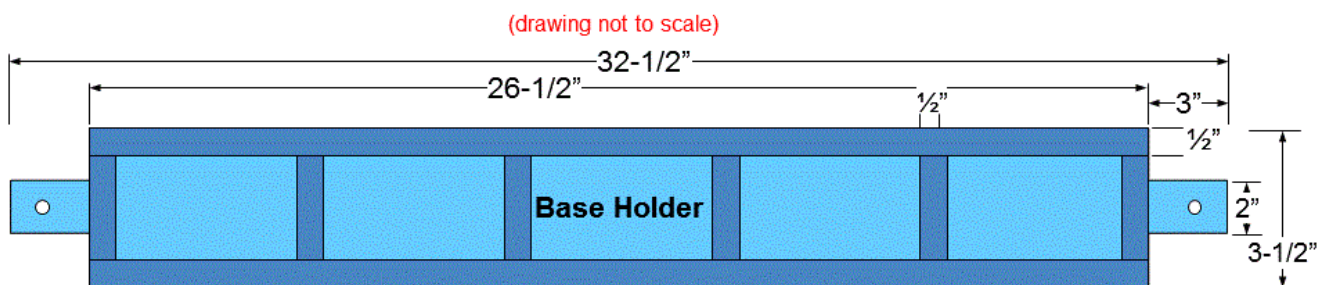

Figure 6
- Using the remainder of the same board, cut a 32-1/2" piece for the base holder. See figure 6. Cut the tenons on the end of each board 3" long, but do NOT drill the peg holes yet. Cut two 27" pieces of the 1/2" x 1/2" trim board and glue/screw it down on each long edge. Cut six 2-1/2" pieces of the trim board and glue/screw them down between the edge trims (equally spread from the ends so you have 5 'sockets'). This makes sockets for the base of each lance/spear to rest in. An alternate option is to use 1" (tall) x 1/2" (thick) trim, and instead of screwing it down on top of the long edge, you can screw it to the side of the long edge so the sockets are a little wider (front to back). If you do this, your six short pieces will need to be 3-1/2" long.